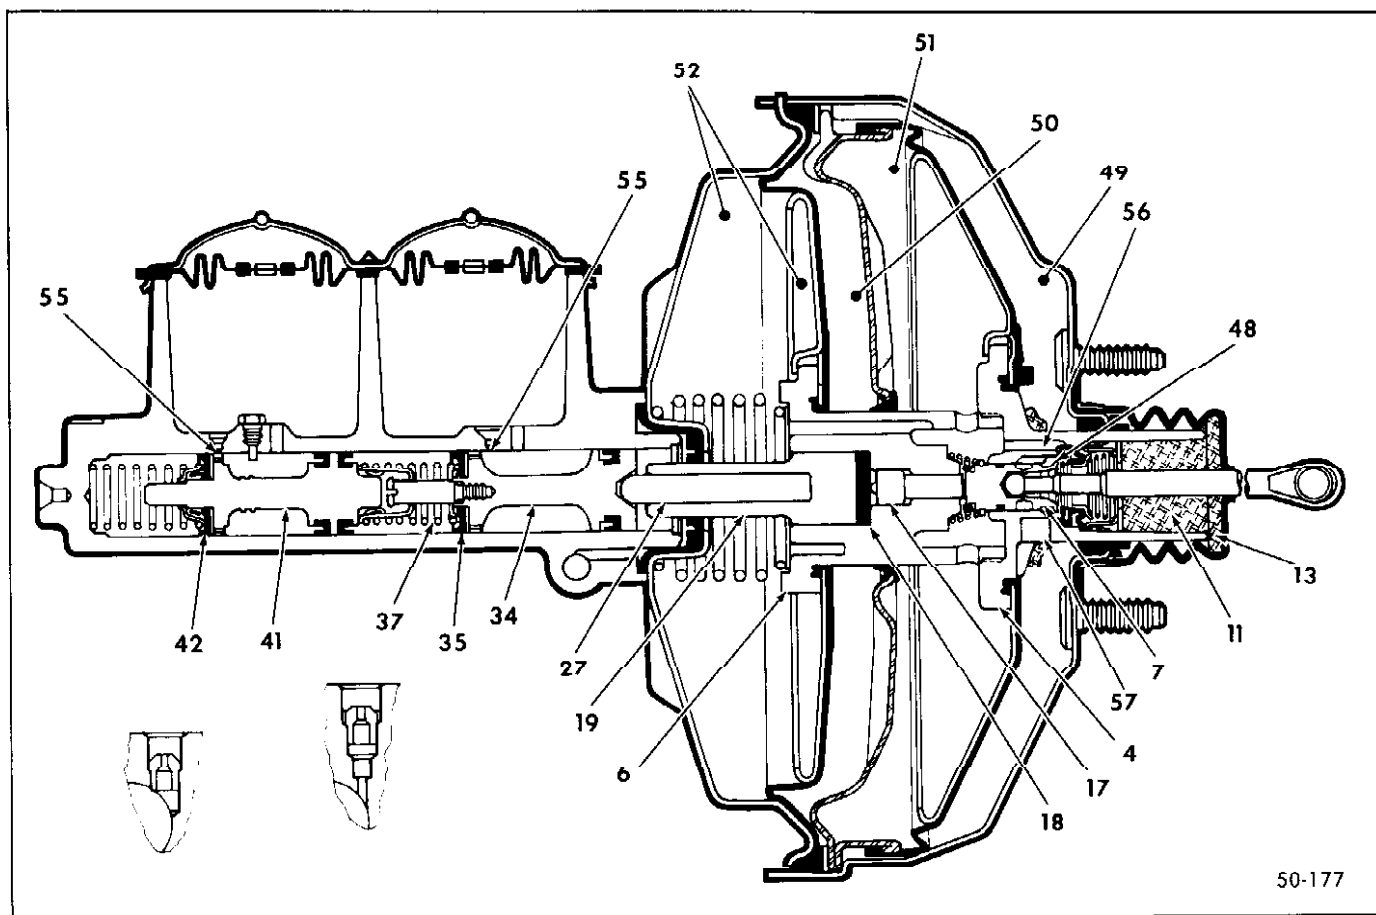

Figure 50-70 Applying Position
As the brake pedal is depressed, the air valve push rod assembly (7) moves in the direction of the master cylinder. The floating control valve (8), being loaded by the spring immediately behind it, follows the air valve until it contacts and seats on the primary power piston at point (47). With the floating control valve seated on the primary power piston (4) at point (47), passage way (56) is closed and the vacuum source is shut off from the areas (49 and 50) behind both power pistons. As the air valve continues to move in the direction of the master cylinder it unseats from the floating control valve. See Figure 50-70.